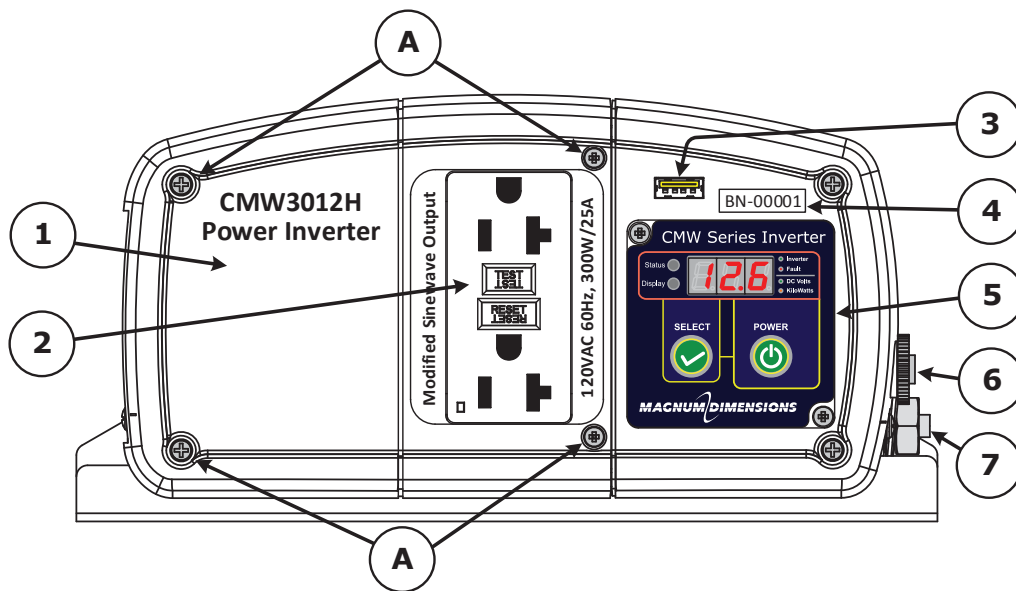
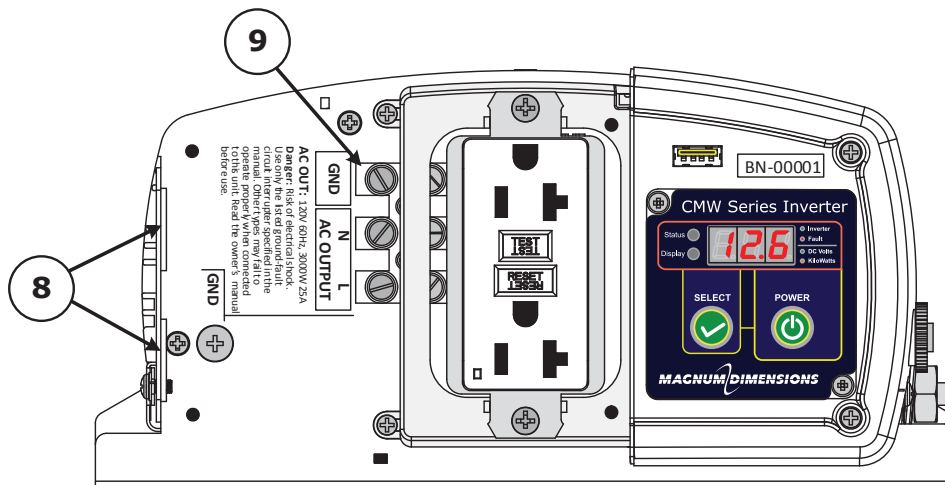

Figure 1-1, Front Panel Features
Figure 1-2, Front Panel Features (Cover Removed)
The front panel of the CMW3012H inverter is equipped with the following features (see Figure 1-1):
1. **AC Wiring Access Cover** – when this cover is removed, it provides access to the AC wiring terminals used to hardwire the inverter’s AC output wiring (see Figure 1-2). Remove four screws (Figure 1-1, Items A) to remove the access cover.
The following front panel features are available on the CMW3012H inverter once the access cover is removed (See Figure 1-2):
Info: To access and view the AC terminal block, remove the four Phillips screws (Figure 1-1, Items A) that secure the AC wiring access cover.
Note: The AC output terminals (L/N) are protected by the inverter's 20-amp AC output circuit breaker (Figure 1-1, Item 6), which limits the pass-thru current to 20 amps.